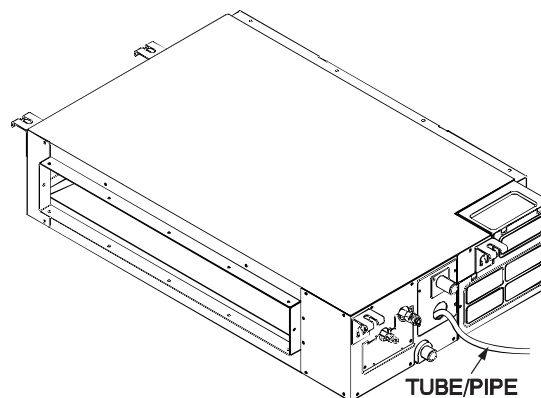

Fig. 28 — Tube Pipe Insert
2. Using a piece of tubing or pipe, fill the condensate lift pump reservoir with 70 oz. of water (see Fig. 28).